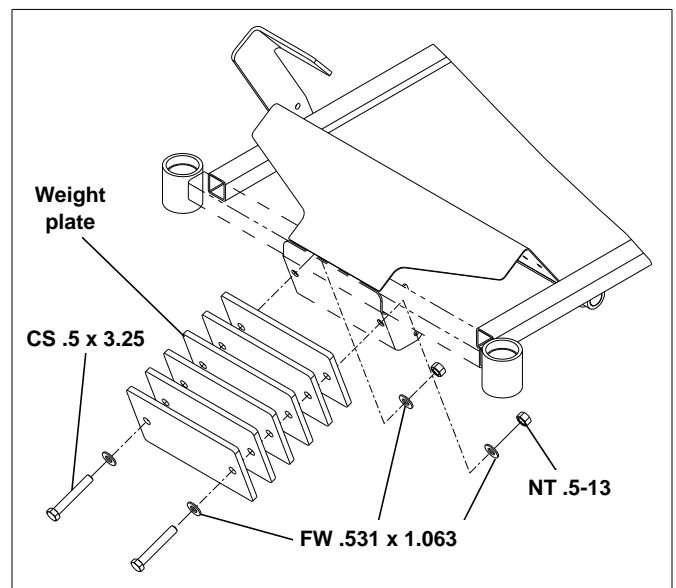

Figure 3-13
21. Attach the weights to the front of the mower. Figure 3-13